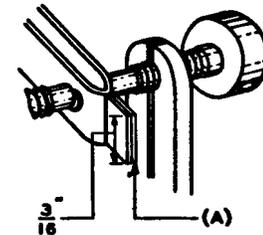

Fig. 102 - Flexible Contact Spring Alignment
- (a) **Flexible Contact Springs Riveted to Armature** - Fig. 102 (A): Springs tips shall be approximately flat, shall bear upon each other at the top and bottom edges and shall make at least a line contact for at least 25% of the $3/16''$ width.